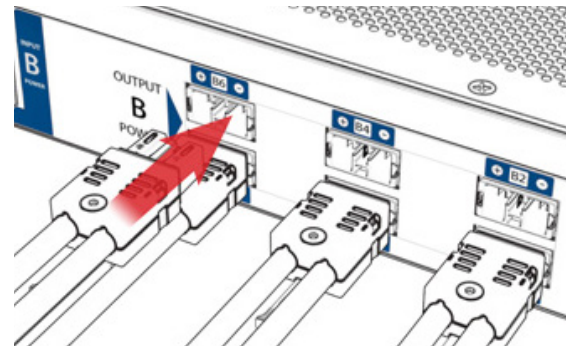

Figure 13. Output connections
Step 1. Insert the DC plugs into the output receptacles until they click. The connectors are keyed to ensure correct polarity (see Figure 13).